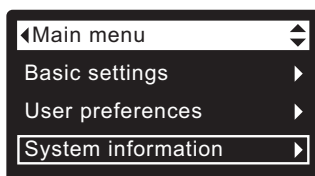

FIG. 69
1. From any of the rolling status screens, press the SELECT (O) button to display the **Main menu**.
2. Press the DOWN (▼) button to scroll through the menu options until **System information** is highlighted (See Figure 69).